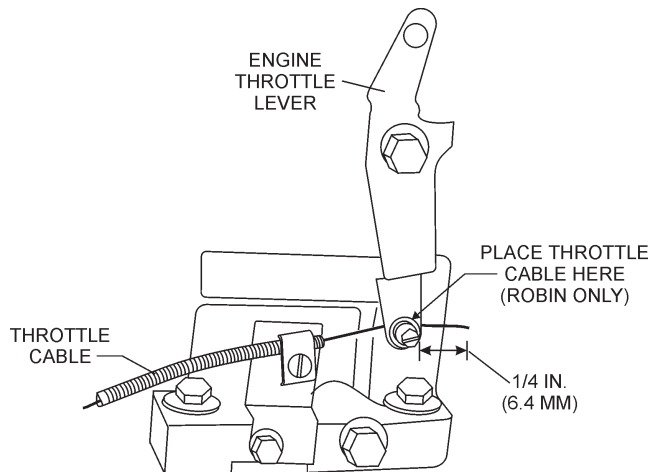

Figure 13. Throttle Cable Connection (ROBIN)
4. Connect the throttle cable hook-on wire to the **ROBIN** engine throttle lever as shown in Figure 13.